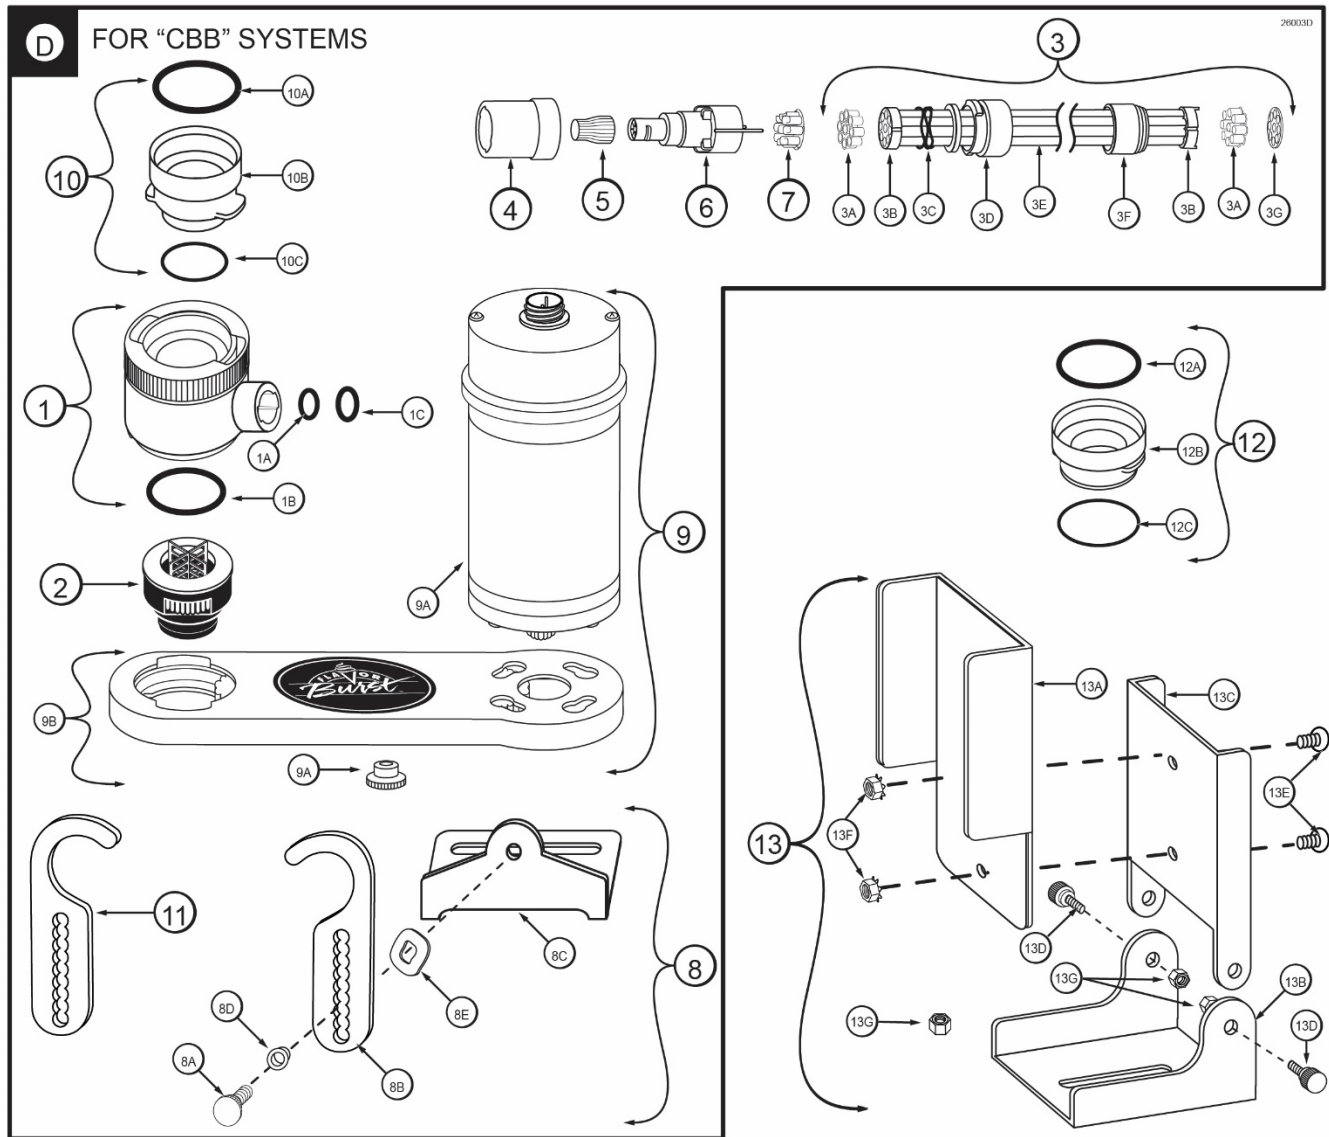

Figure 4D
**“CBB” Blending Assembly and Related Parts (See Figure 4D)**